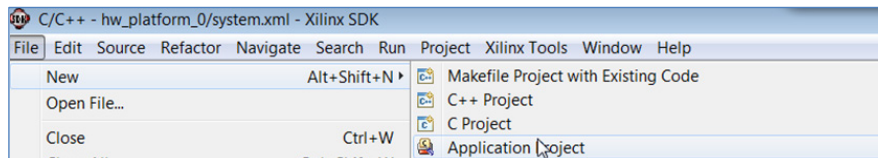

Figure 33: File->New->Application Project
3. Select **File > New > Application Project** (FIGURE 33).